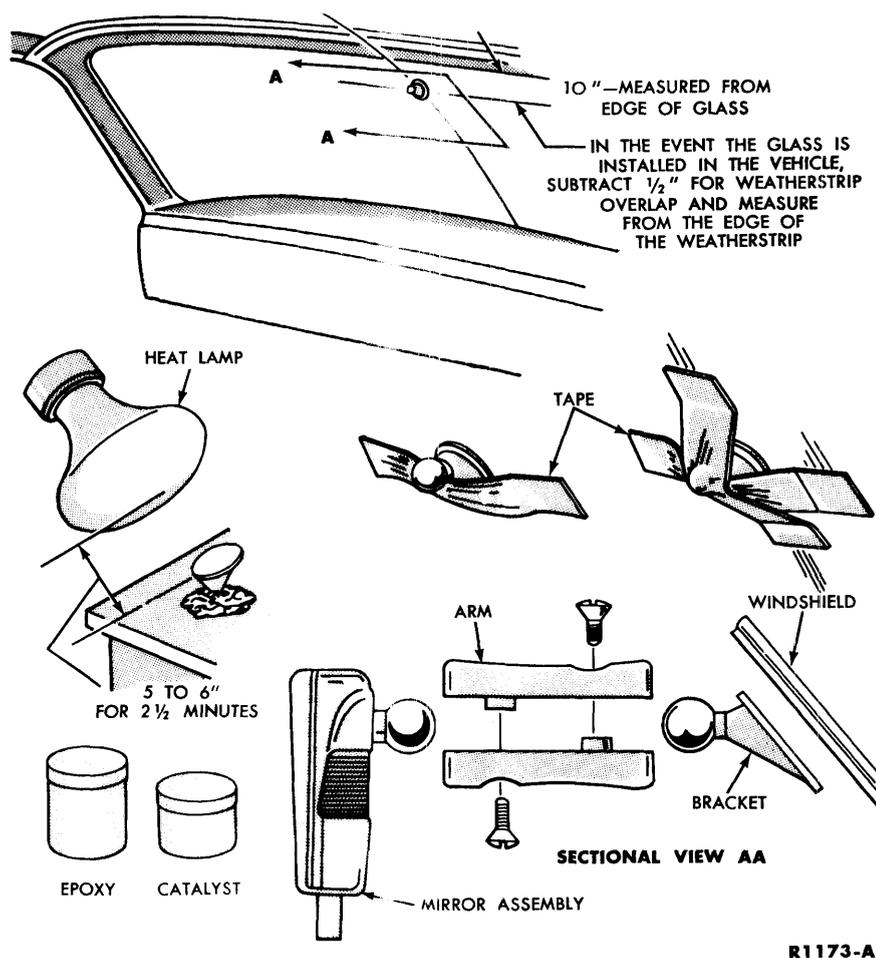

FIG. 73—Bonded Windshield Rear View Mirror Installation
1. Locate and mark, with a wax pencil, the bracket location on the outside surface of the windshield (Fig. 73).
3. To mix the resin, pour the entire contents of the small catalyst bottle into the large epoxy bottle (Fig. 73).
mounting bracket (Fig. 73). Hold a standard 250 watt infrared lamp about five to six inches from the mounting surface of the bracket for two and one half minutes (Fig. 73).
8. Secure the bracket to the windshield, using a piece of tape about five inches long located just under the knob of the bracket (Fig. 73). Apply another piece of tape in the vertical direction (Fig. 73) to firmly hold the mounting bracket in place on the windshield.
10. After the bracket has had time to adhere to the glass, remove the tape and install the mirror and arm to the bracket (Fig. 73).